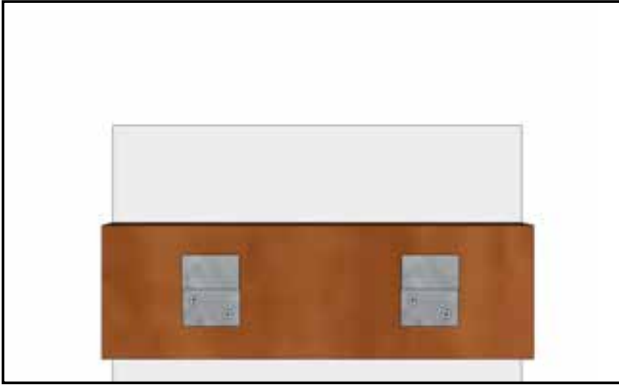

Figure 4
4. Install blocking and z-clips to match up with the ones on the board (Figure 4)